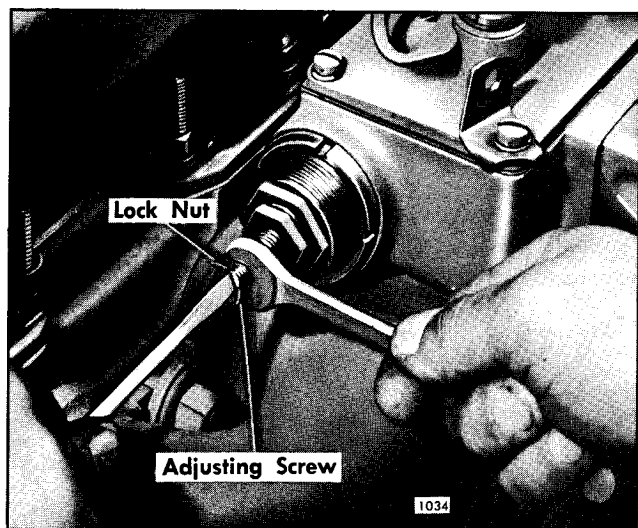

Fig. 11 - Adjusting Idle Speed
With the engine running at idle speed, observe the engine rpm at the tachometer, then loosen the lock nut (42) and thread the idle adjusting screw (43) IN to increase or OUT to decrease until 385 engine rpm is obtained, Fig. 11. Tighten the lock nut.